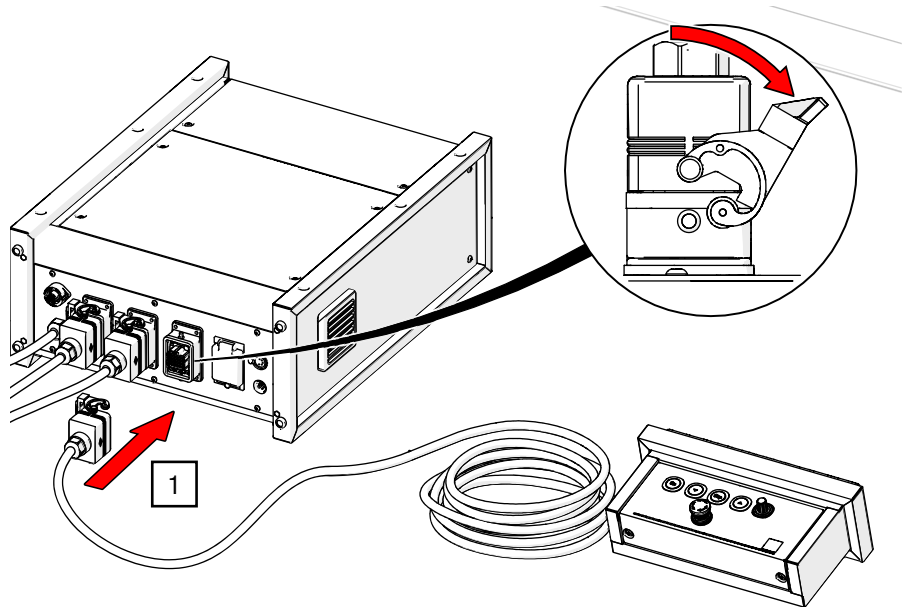

Fig. 28: G-FRAME 54 – Connect 2nd control point
1. Plug the control cable of the second control unit into the socket labelled OXSB1 on the rear of the control unit and lock it with the bracket (see Fig. 28).